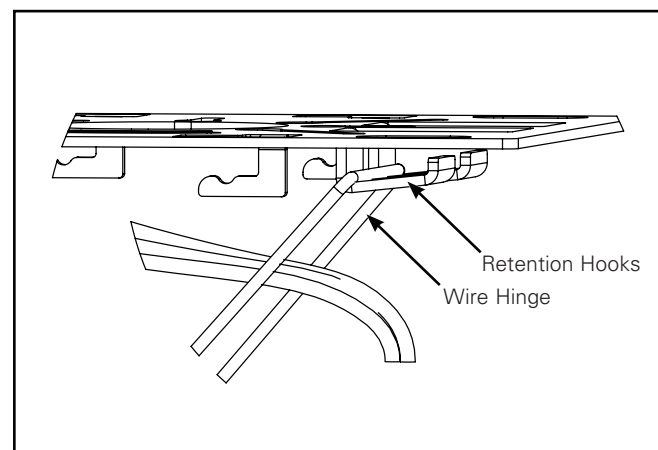

Figure 4.
5. Hang the luminaire to the quick mount plate by the wire hinge (Figure 4).